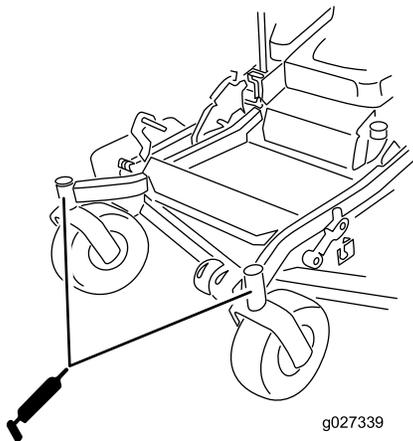

Figure 57
15. Install the hex plug and dust cap (Figure 57).
16. Grease the caster-wheel bearings (Figure 57).